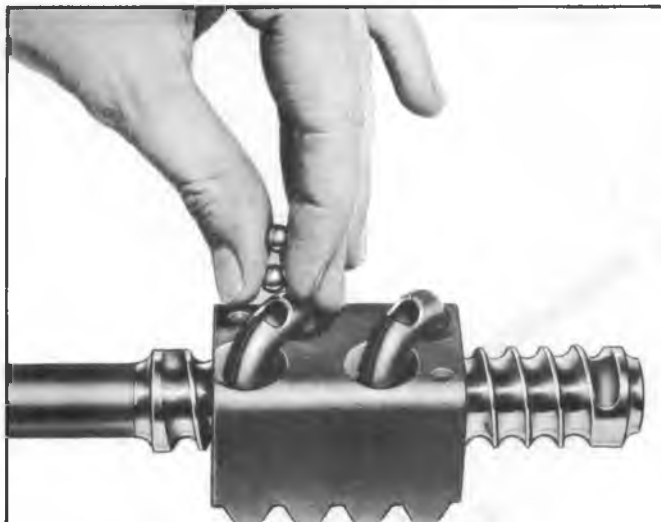

Fig. 11—Filling Ball Circuits—Except Corvette
4. **All Except Corvette (fig. 11):**